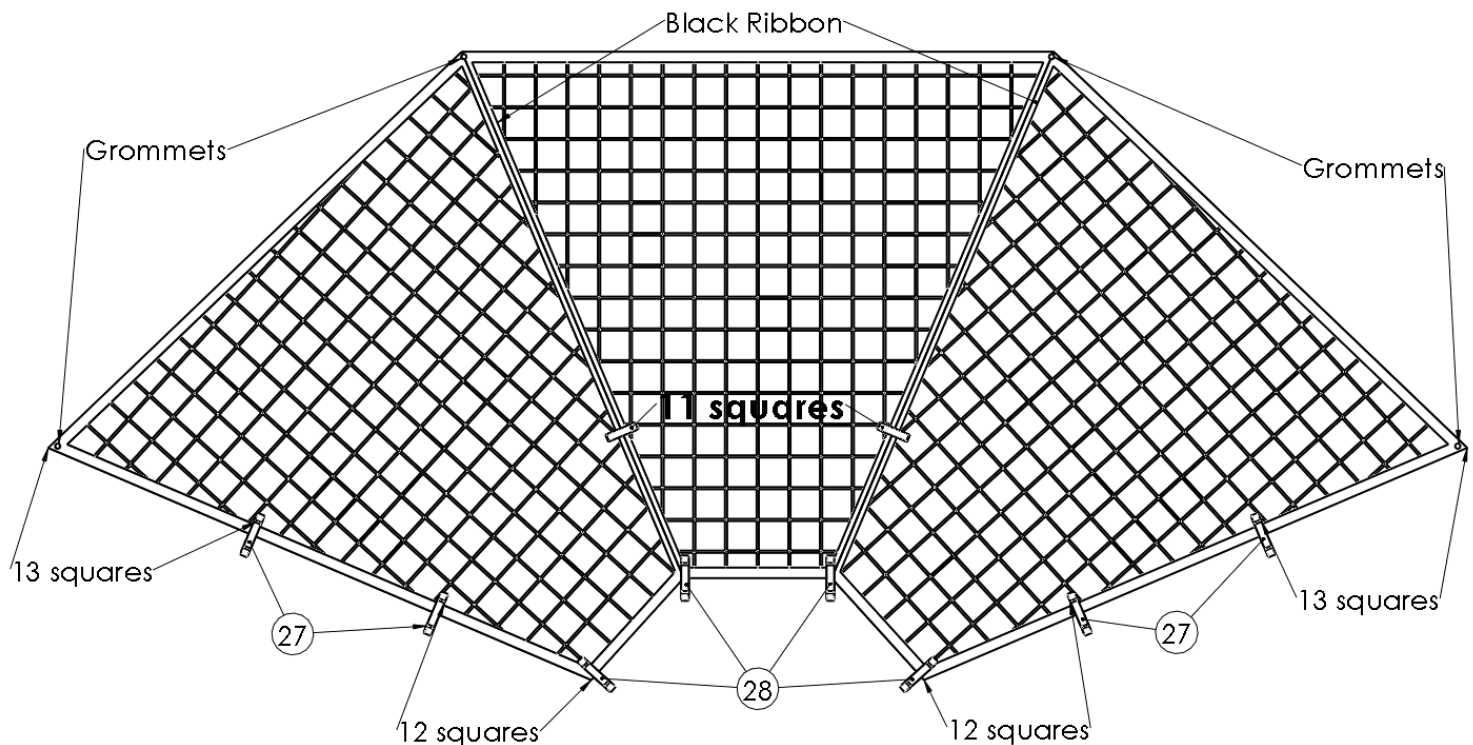

Fig .10
B: Loop Long Velcro (28) to the bottom four corners. See figure 10.